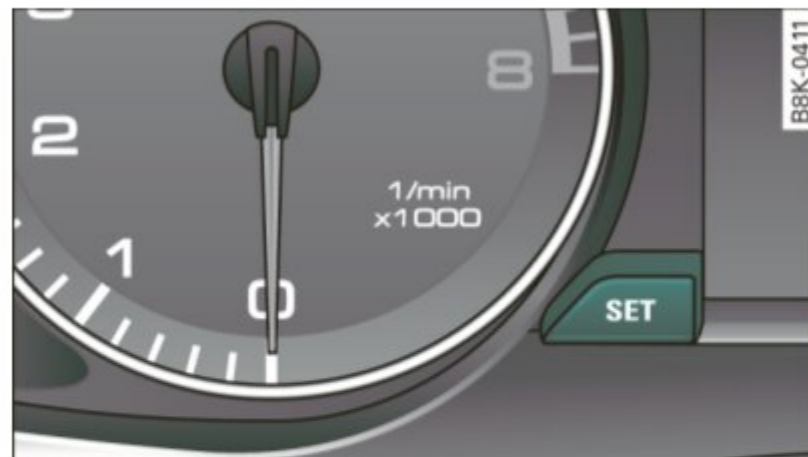

Fig. 21 SET button in the instrument cluster
- Press the **SET** button in the instrument panel display ⇒ fig. 21 for 1 second.